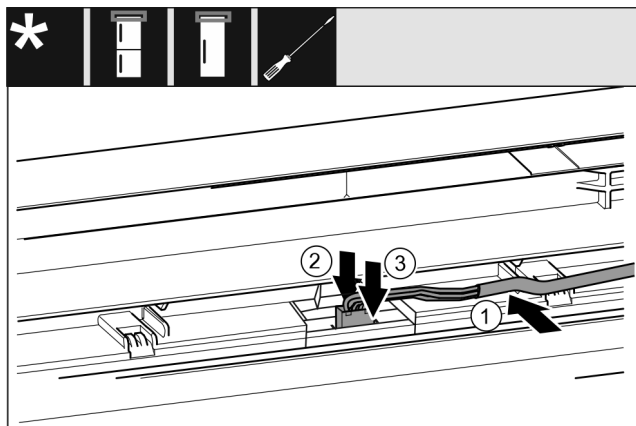

Fig. 41 Fridge/freezer combinations / freezers / refrigerators
- ▶ Insert the cable *Fig. 41 (1)* into the guide in the top door.
- ▶ Push the latching tab *Fig. 41 (2)* backwards.
- ▶ Engage the plug *Fig. 41 (3)*.